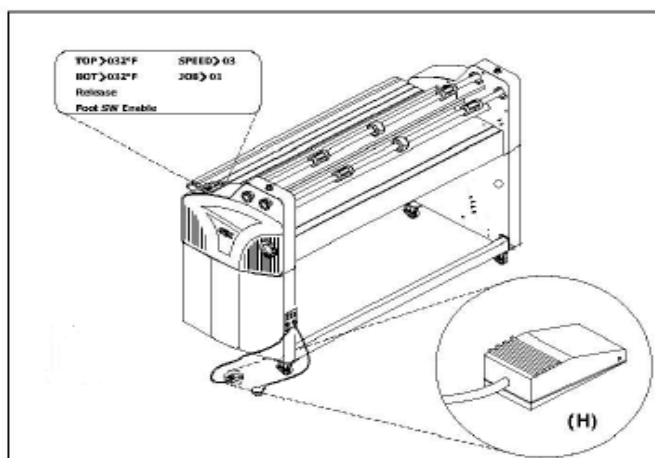

Fig. 10
G. FOOT SW ENABLE: (Figure 10)